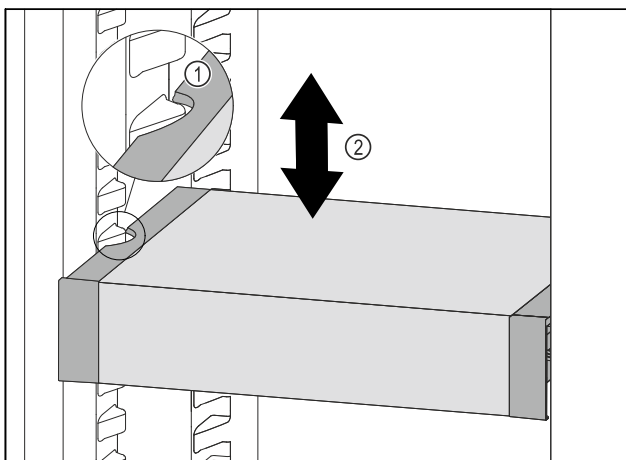

Fig. 137
- ▶ Pull VarioSafe forwards until the recesses in the side of the VarioSafe are at the level of the support rib in the refrigerator compartment. Fig. 137 (1)
- ▶ Move VarioSafe up or down in the refrigerator compartment until the desired height is reached. Fig. 137 (2)